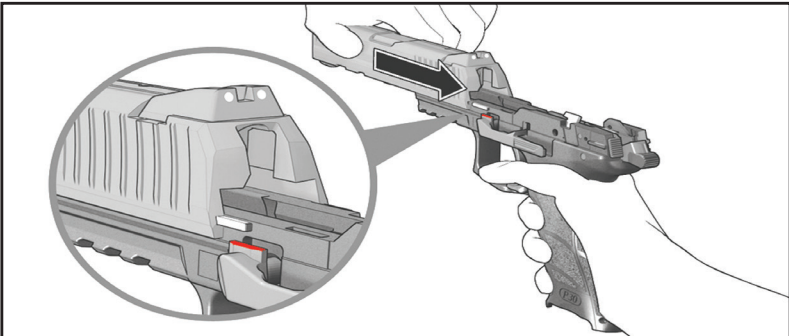

Figure 42 — Mounting the slide on the frame
6. Mount the slide onto the frame, ensuring that the recoil spring is centered underneath the barrel, and that the rails on the frame are inserted into the grooves on the bottom of the slide (see Figure 42).